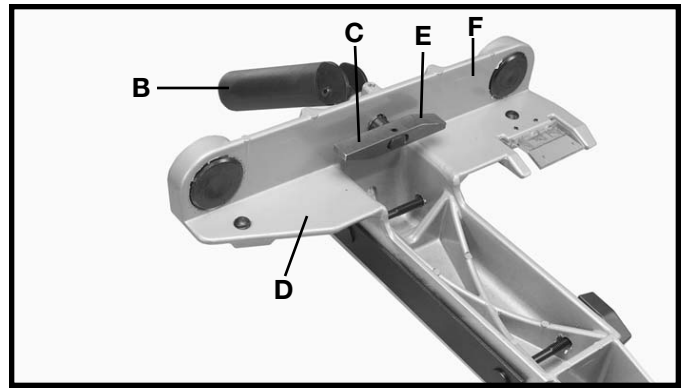

Fig. 34
1. Turn fence body (A) Fig. 34, upside down and lay it on a table or bench. Push handle (B) in against fence body. Make certain the surface (C) of clamp bracket is parallel to the face (D) of the fence body, and that the inside edge (E) of the clamp bracket is parallel to surface (F) of the fence body. Turn handle (B) Fig. 32, if necessary.